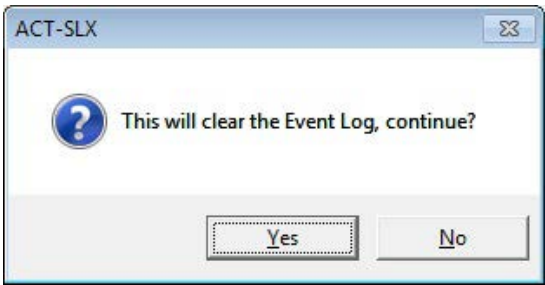

Figure 4-21. Confirm Clear Event Log Prompt
5. Select **<OK>**. In response, a prompt asks to confirm clearing the event log (Figure 4-21). If **<Yes>** is selected, the progression of the clearance procedure is displayed (Figure 4-22). After the event log has been cleared, a notification (Figure 4-23) is displayed.